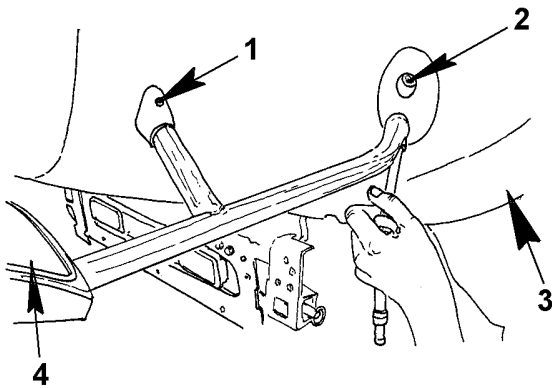

Figure 65 Fender Mounted Mirror Removal
2. Locate the lock nut and flat washer on the underside of the fender section. Secure the lock nut and flat washer and loosen (Figure 65, Item 2) the mounting bolts in the mounting bracket on the outside fender section.
3. Locate the lock nut and washer on the inside vertical section of the hood assembly. Loosen the mounting bolt in the lateral bracket base (Figure 65, Item 1). It would be advisable to have an assistant steady the mirror during the removal process and to prevent breakage if the mirror should fall.